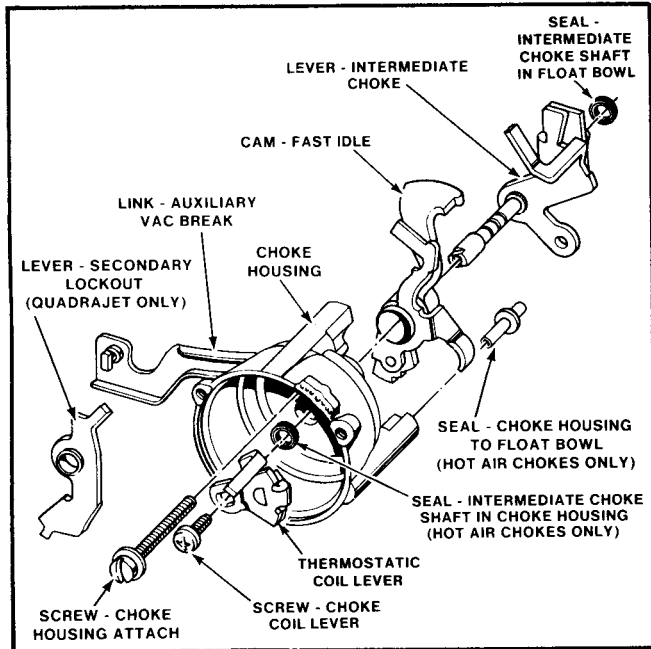

Figure 58 Choke Assembly - Typical
6. Remove the cup seal from inside choke housing shaft hole if the housing is to be immersed in carburetor cleaner. Also, remove cup seal from the float bowl insert for bowl cleaning purposes (Figure 58).